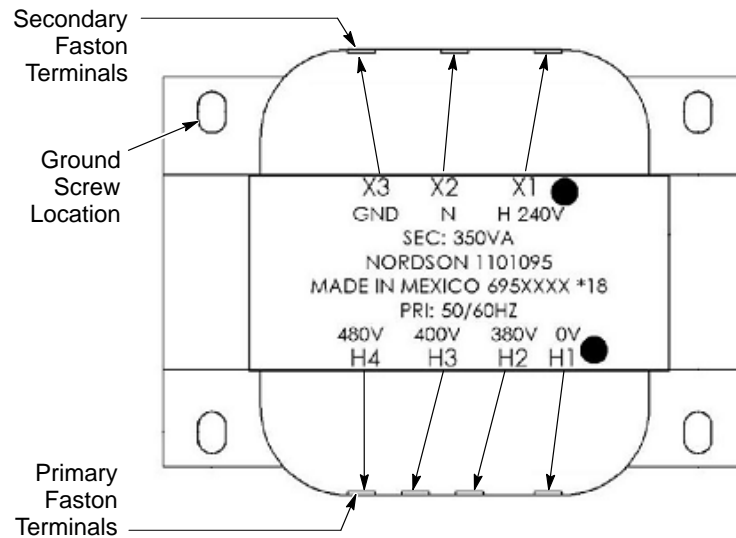

Figure 7 New Transformer Terminals
2. See Figure 7. One at a time, matching the wire label to the transformer label, attach the Faston lugs onto the terminals, and insert the wires into the main control board CONN6.